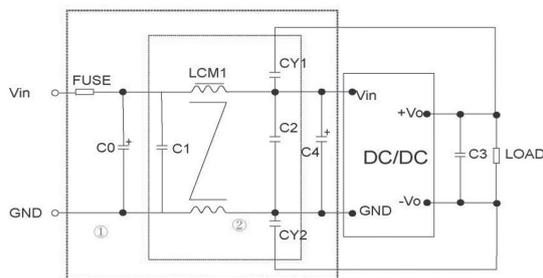

Fig 3
Note: Part ① in Figure 3 is for EMC testing; Part ② is used for EMI filtering, which can be selected according to the demand.